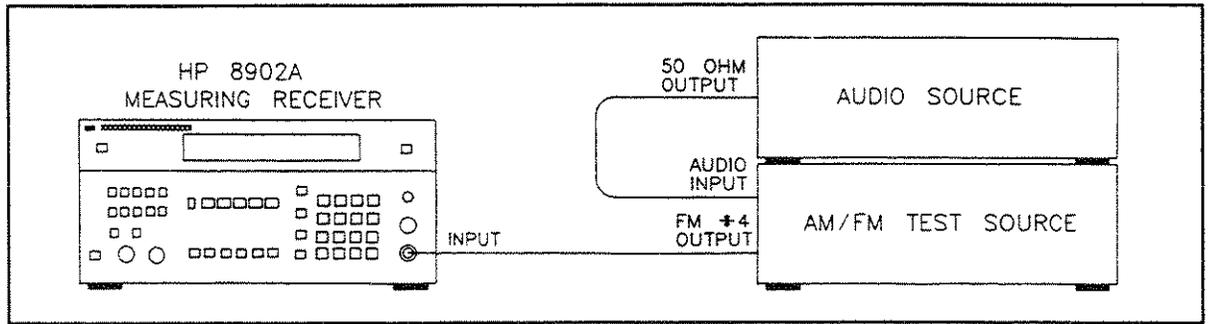

Figure 4-10. Measuring Receiver Incidental AM Verification Test Setup
- a. Connect the FM divide-by-4 output of the AM/FM test source to the input of the measuring receiver and the 50 ohm output of the test oscillator to the audio input of the AM/FM test source, as shown in Figure 4-10.